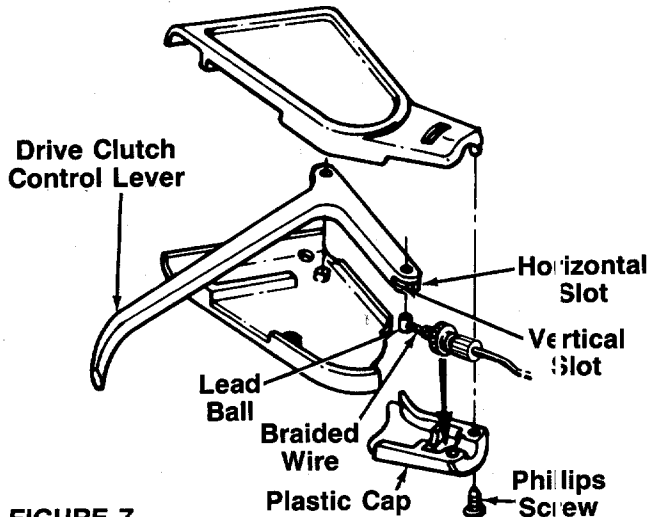

FIGURE 7.
- Slide the braided wire around in the horizontal slot. See figure 7.
- Secure the plastic cap to the clutch control housing using the two Phillips head screws. See figure 7.